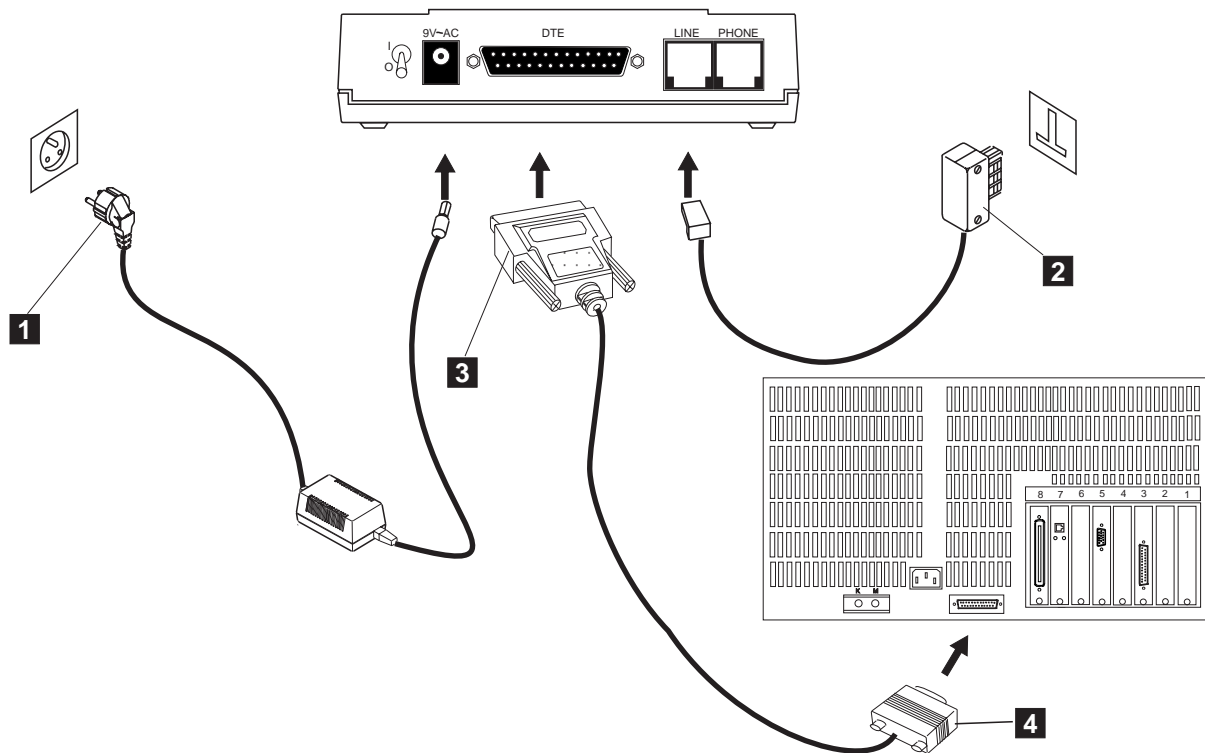

Figure 1-77. Connecting the 3172 (Port COM1) to the Hayes
- **3172**, Figure 1-77 on page 1-67.